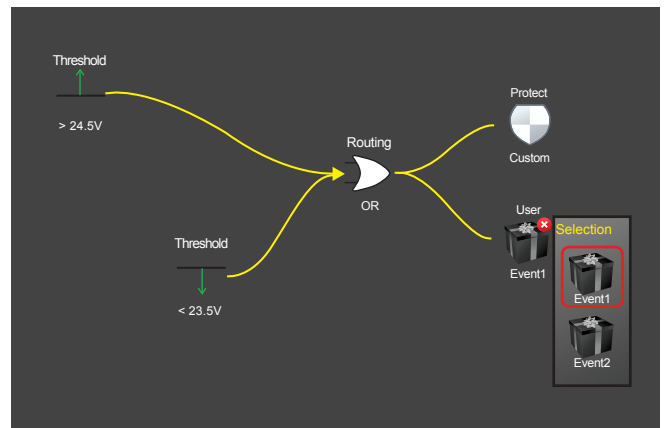

Figure 5. Configuring a trigger expression with the N7906A Power Assistant software
- Perform trigger routing and configure logical trigger expressions (see Figure 5)